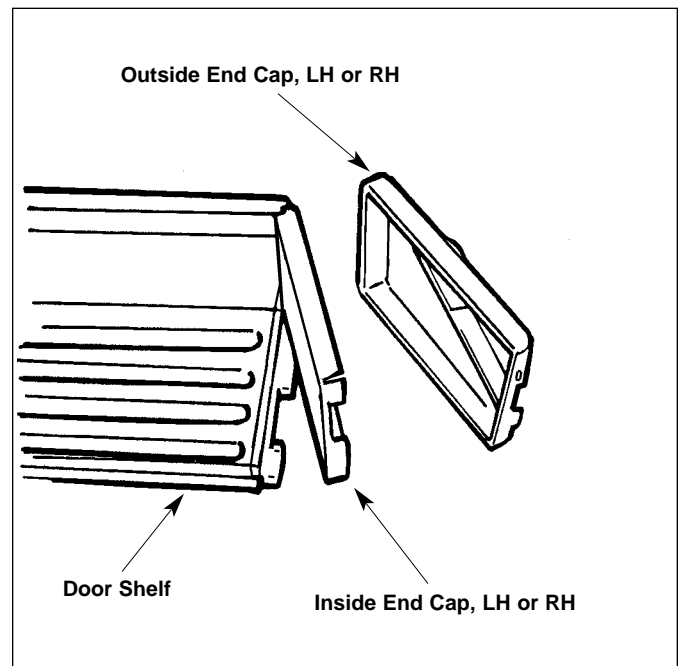

Figure 2-13. Door Shelf Disassembly
2. This will release the end caps from the door shelf, allowing the door shelf support to slide off the open end (Figure 2-13).